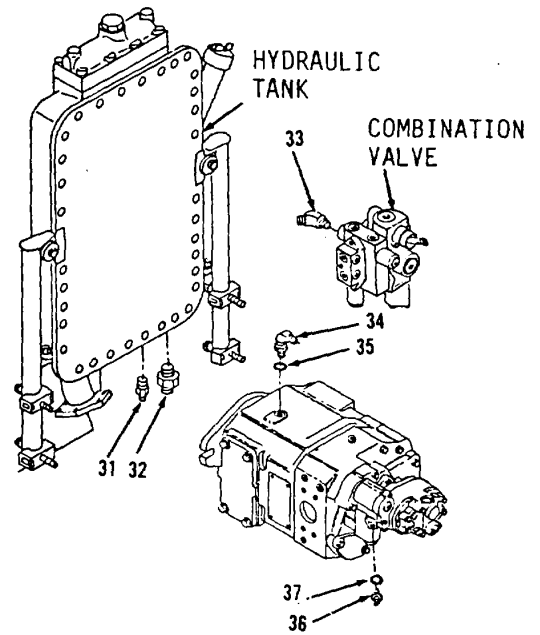
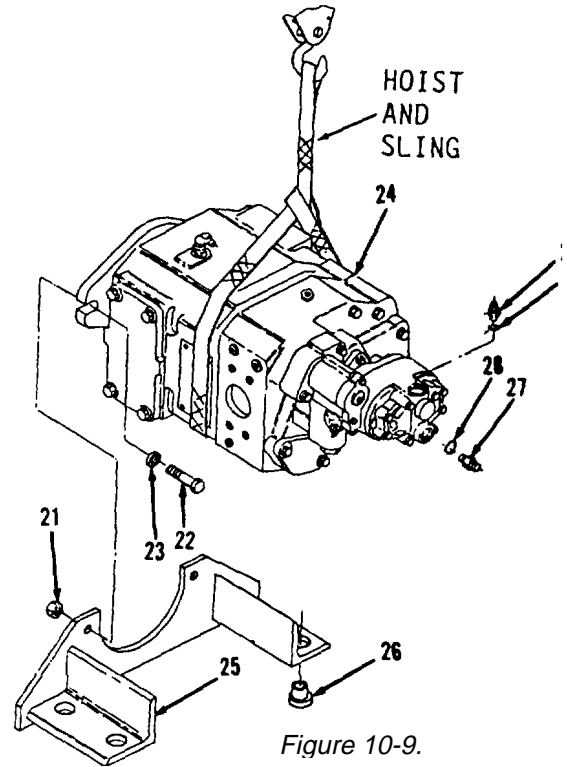

Figure 10-10.
Figure 10-9.
21. Remove connectors (31 and 32) and elbow (33, Figure 10-10).
22. Remove elbow (34) and preformed packing (35). Discard preformed packing (35).
23. Remove connector (36) and preformed packing (37). Discard preformed packing (37).
1. Install new preformed packing (37) and connector (36) in pump assembly (24, Figure 10-10).
2. Install new preformed packing (35) and elbow (34).
3. Install elbow (33) and connectors (32 and 31).
4. Install new preformed packing (30) and connector (29, Figure 10-9).
5. Install new preformed packing (28) and connector (27).
6. Install four mounts (26) into bracket (25).
7. Position bracket (25) so when pump assembly (24) with attached items 30 thru 21 is installed on bracket (25), it can be slid into mounting position.
8. Using a hoist and sling, position pump assembly (24) on bracket (25).
9. Install two washers (23), bolts (22) and nuts (21).